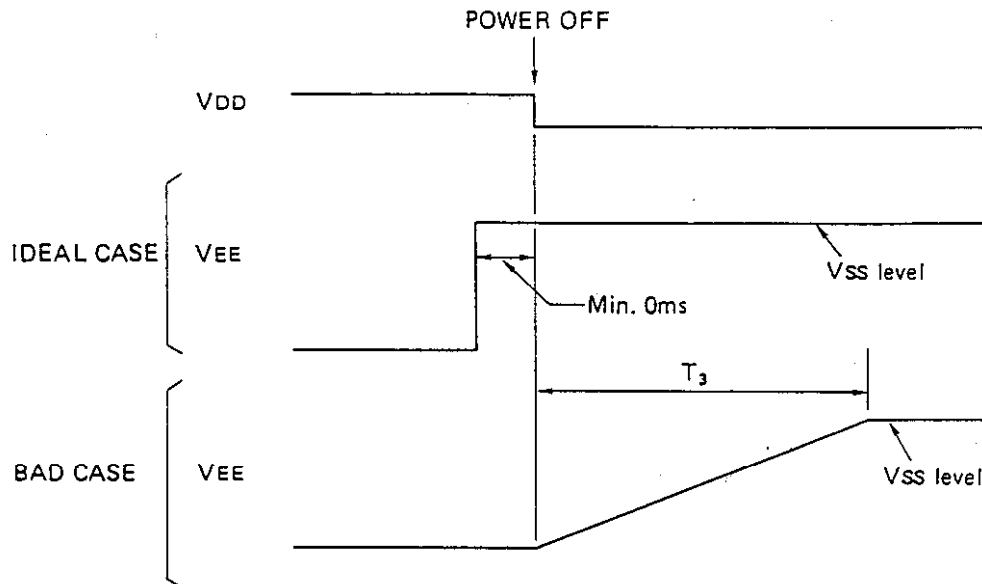

Fig.12-4
- T_3 : A time from power has been turned OFF to liquid crystal driving voltage V_{EE} returns to V_{SS} level. (See Fig.12-4 later.)
When V_{EE} return to V_{SS} level behind V_{DD} after the main power has been turned OFF, since the drive circuit of LCD module is stopping its logic operation at the point of time of power OFF, it might result in DC voltage being applied to LCD panel in a period of T_3 shown in Fig.12-4. below.